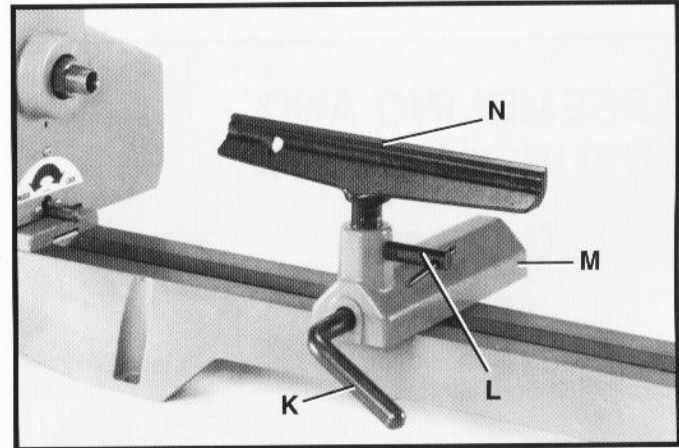

Fig. 13
6. Carefully slide tool rest base (M) Fig. 13, to the center of lathe bed. Reposition tool rest base (M) Fig. 13, and tool rest (N) as shown and tighten locking levers (K) and (L).